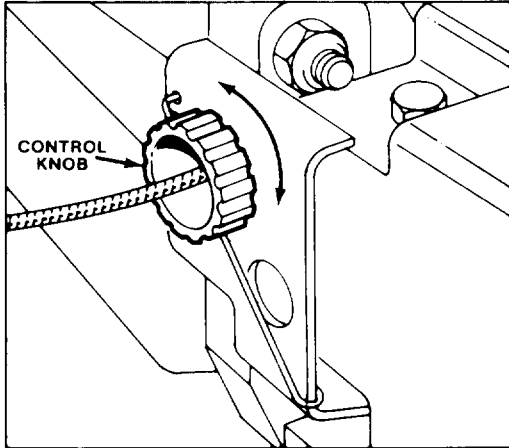

Figure 14
3. ADJUSTMENT (Fig. 14)—Rotate control knob clockwise 1/2 turn if mower does not self-propel. If mower creeps forward, rotate knob 1/2 turn counter-clockwise to loosen belt.